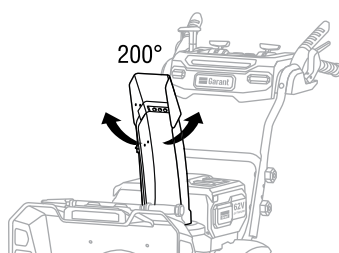

Fig. 9B
1. Press and hold the chute rotation button on the left from the view of the operator's position, the snow discharge guide turns to the left. (Fig. 9B)
2. Press and hold the chute rotation button on the right from the view of the operator's position, the snow discharge guide turns to the right. (Fig. 9B)